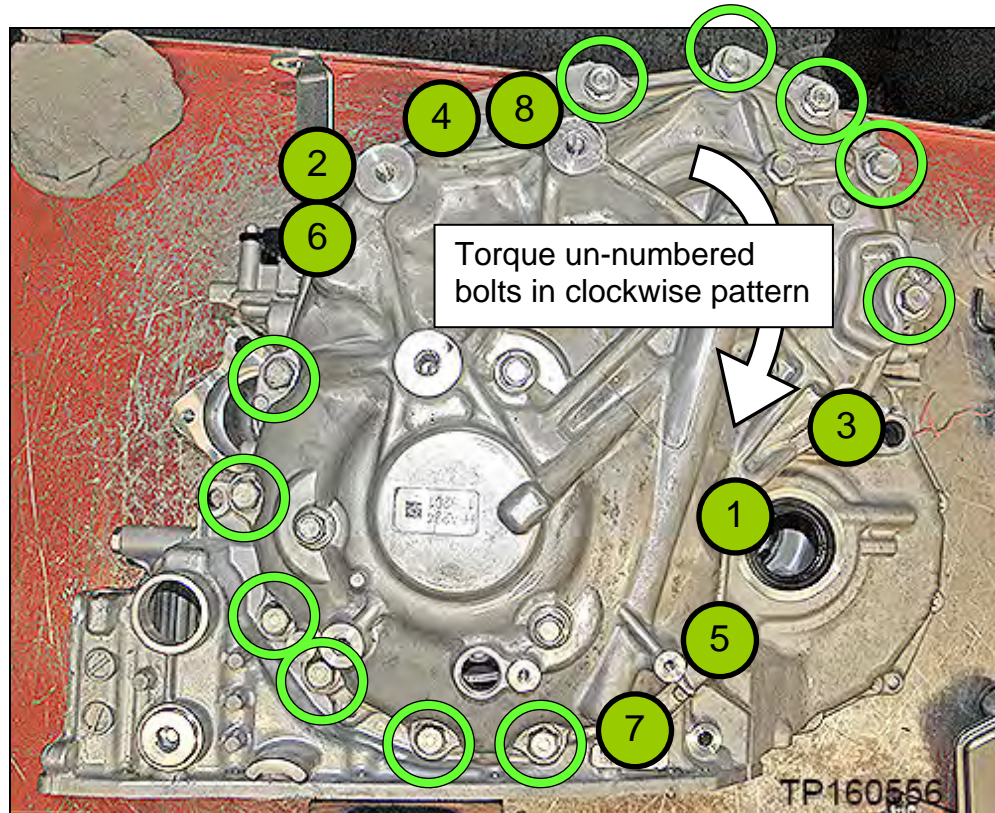

Figure 33F
26. Install the new side cover bolts for sub-assembly to the CVT case (Figure 33F).
- Torque the first eight (8) bolts marked as ● in the sequence numbered in Figure 33F below, and then torque the rest of the bolts in a clockwise manner.